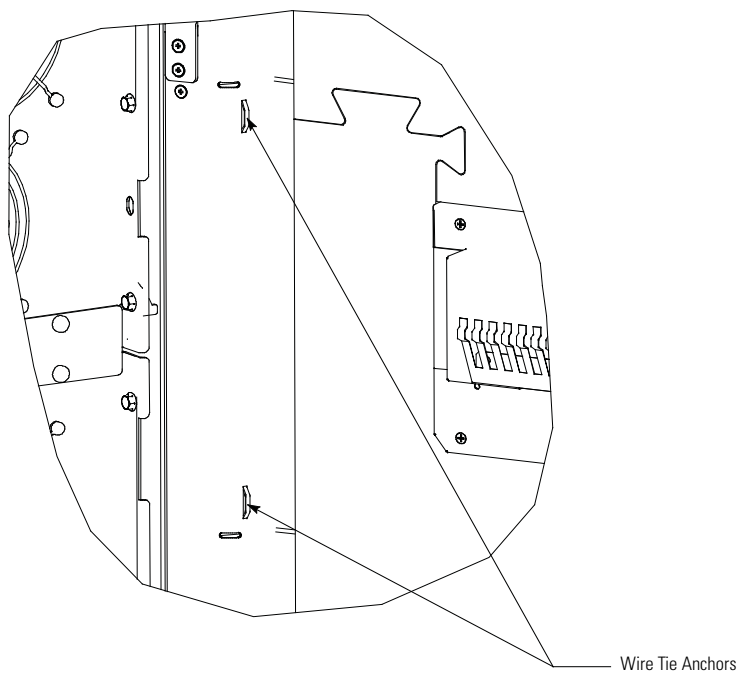

Figure 4-14. Wire Tie Anchors
12. Secure the wiring to the wire tie anchors provided (see Figure 4-14) using Zip ties.
10. Secure the wiring to the wire tie anchors provided (see Figure 4-14) using Zip ties.